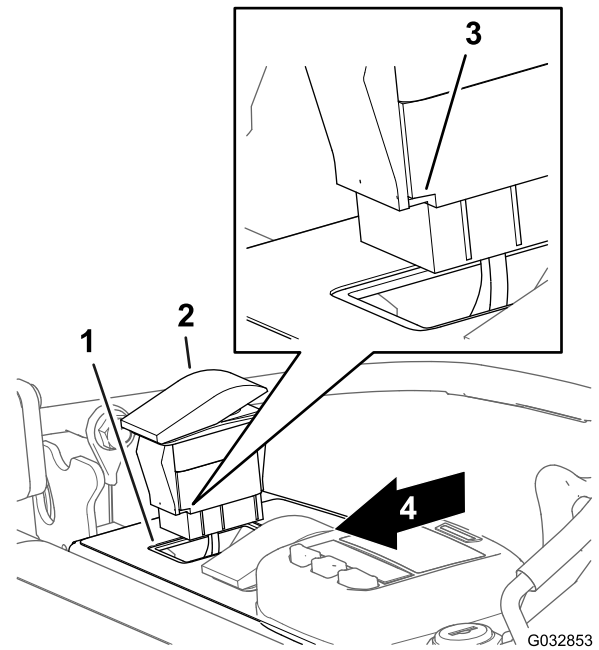

Figure 14
4. Align the switch so that the notch in the body of the switch is toward the back of the control panel (Figure 14).